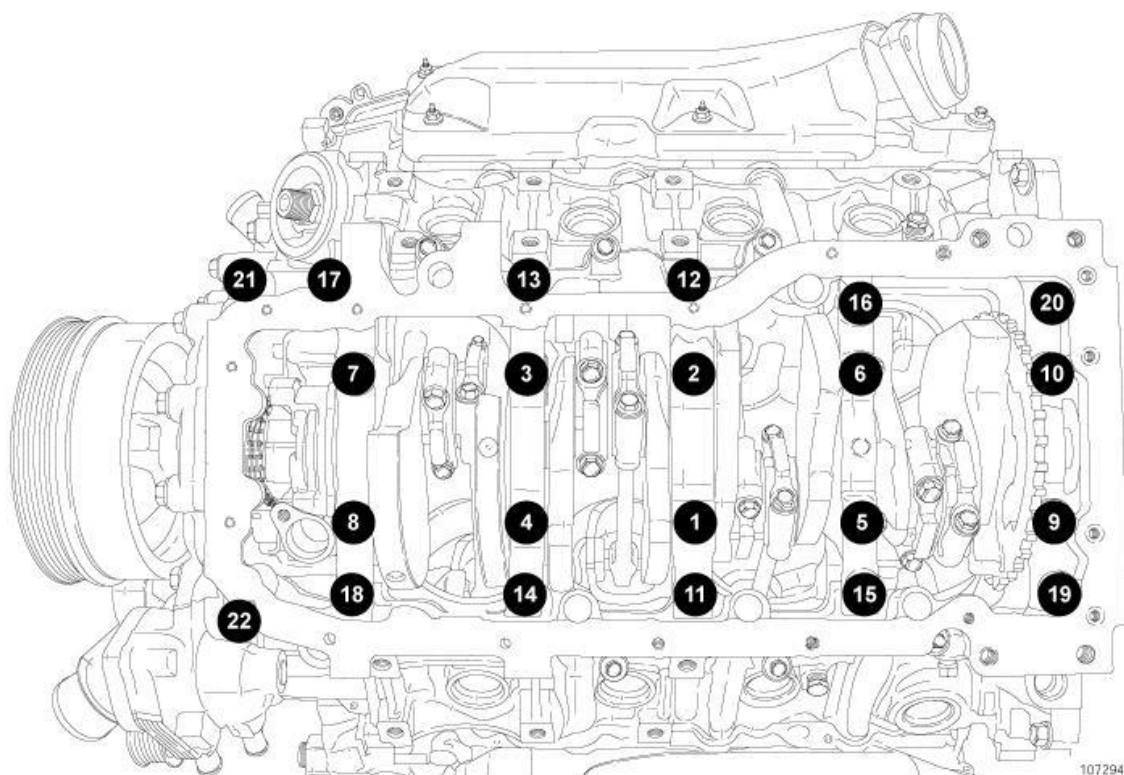

Fig. 181: Tightening Bedplate Bolts (1 Of 4)
7. Tighten bolts to 3 N.m (26 in. lbs.) in the sequence shown in **Fig. 181**.